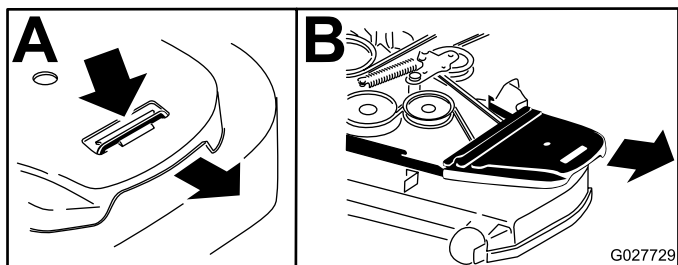

Figure 61
7. Remove the belt covers (Figure 61).